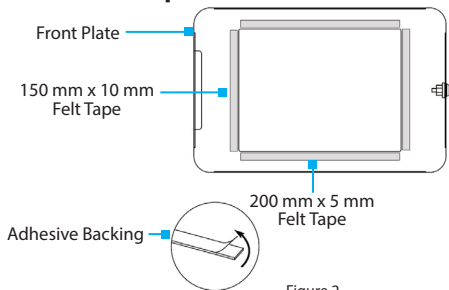

Figure 2
1. Remove the **Adhesive Backing** from the **200 x 5 mm Felt Tape** (x 2) and affix to the long edges of the inside of the **Display Frame**, located on the **Front Plate**. (Figure 2)